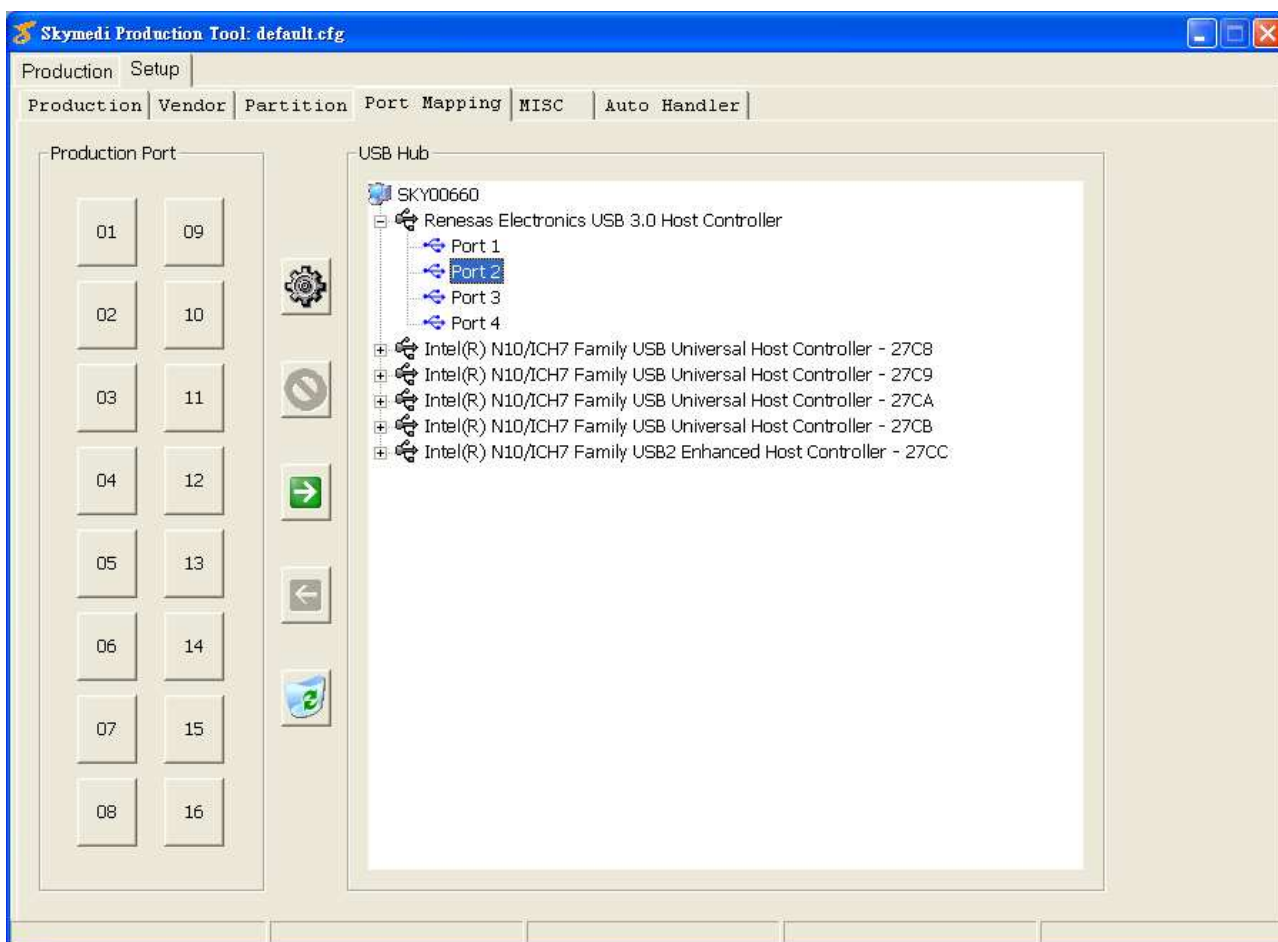

Figure-43 : Manual Port Mapping-1
1. Select the physical port to map as Figure-43